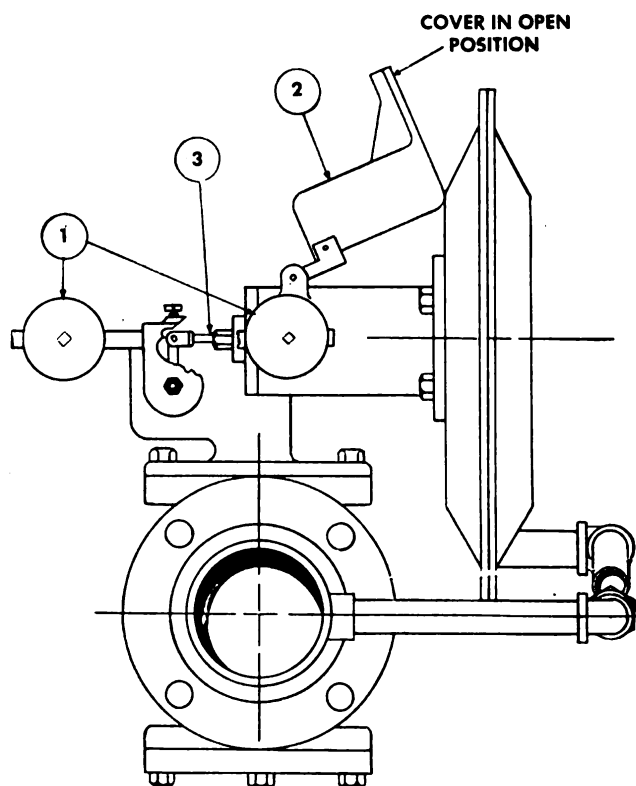

Figure 57. Varec regulator No. 187.
g. ADJUST VALVE PRESSURE. (1) *On back-pressure regulator No. 386 and pressure-reducing regulator No. 387, single ports.* Make all valve-pressure adjustments with normal gas flow in system. To adjust pressure setting, unscrew cap and turn exposed spring-adjusting screw, until desired pressure is obtained. Turn screw clockwise to increase upstream pressure; turn counterclockwise to decrease upstream pressure. When final adjustment is made, replace cap. This does not need lubrication.
(2) *On back-pressure regulator No. 186 and pressure-reducing regulator No. 187, double ports.* Make all valve-pressure adjustments with normal gas flow in system. The following two steps are necessary in adjusting pressure setting. (See fig. 57.)